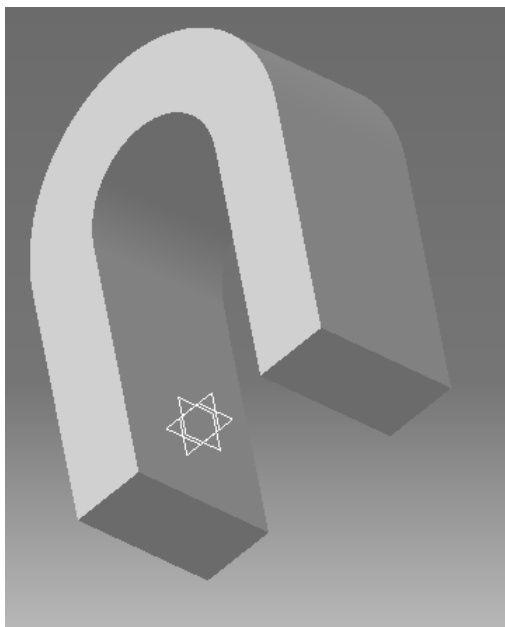

Figure 2.6
2.12 Select the bottom surface of the right leg. This surface joins the front and back surfaces. It is the **Face to Remove**, as shown in figure 2.6